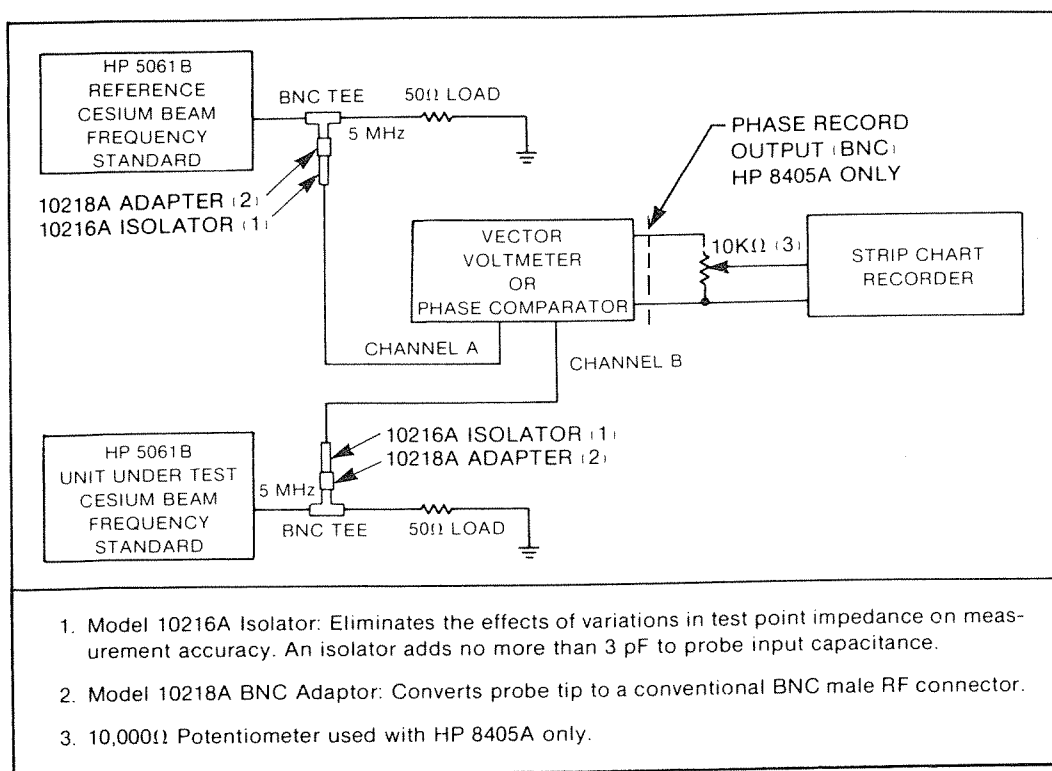

Figure 3-11. Accuracy Measurement Test Setup
- Connect equipment as shown in Figure 3-11.